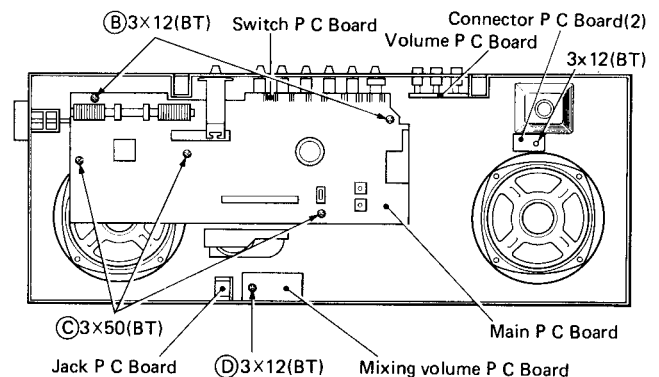

Fig. 5
3. Main and Switch PC Board removal (Fig. 5)
- 2) Remove 5 main PC Board fixing screw (B), (C) shown in Fig. 5.
4. Volume PC Board removal (Fig. 5)
5. Mixing volume PC Board removal (Fig. 5)
- 2) The mixing volume PC Board can be removed by removing the fixing screw (D) shown in Fig. 5
6. Jack PC Board removal (Fig. 5)